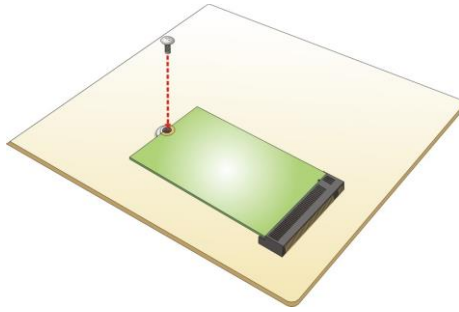

Figure 3-7: Securing the WLAN Module
Step 4: Secure the WLAN module with the retention screw previously removed (Figure 3-7).